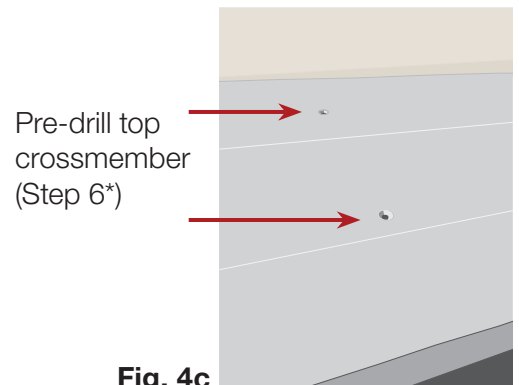

Fig. 4c
- After wall and top crossmember (2) are marked, carefully remove the cabinet from the wall and set aside. Fasten the wall brackets (8) to the wall at marked locations using hardware appropriate for your wall type (not included). Be sure they are level.
- (Fig. 4c). For installations with minimal ceiling clearance, it may be necessary to lay the cabinet back down on the floor to enable pre-drilling of the top crossmember.